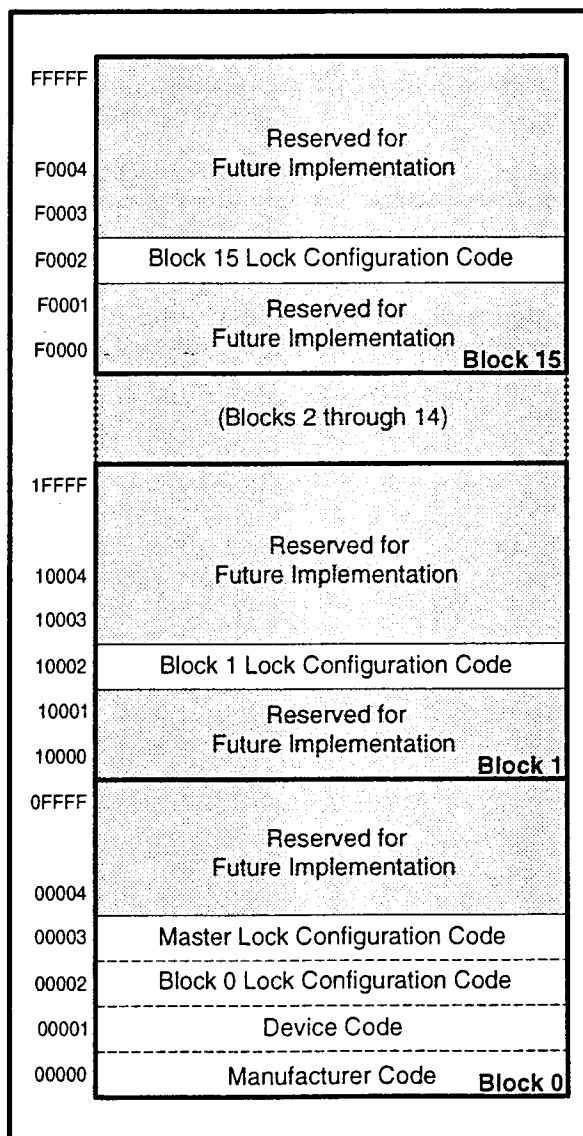

Figure 7. Device Identifier Code Memory Map
The read identifier codes operation outputs the manufacturer code, device code, block lock configuration codes for each block, and the master lock configuration code (see Figure 7). Using the manufacturer and device codes, the system CPU can automatically match the device with its proper algorithms. The block lock and master lock configuration codes identify locked and unlocked blocks and master lock-bit setting.
| Read Identifier Codes |       | V IH or V HH | V IL | V IL | V IH | See Figure 7 | X               | Note 5            | V OH |
IA=Identifier Code Address: see Figure 7.
The identifier code operation is initiated by writing the Read Identifier Codes command. Following the command write, read cycles from addresses shown in Figure 7 retrieve the manufacturer, device, block lock configuration and master lock configuration codes (see Table 5 for identifier code values). To terminate the operation, write another valid command. Like the Read Array command, the Read Identifier Codes command functions independently of the  $V_{PP}$  voltage and RP# can be  $V_{IH}$  or  $V_{HH}$ . Following the Read Identifier Codes command, the following information can be read:
1. X selects the specific block lock configuration code to be read. See Figure 7 for the device identifier code memory map.